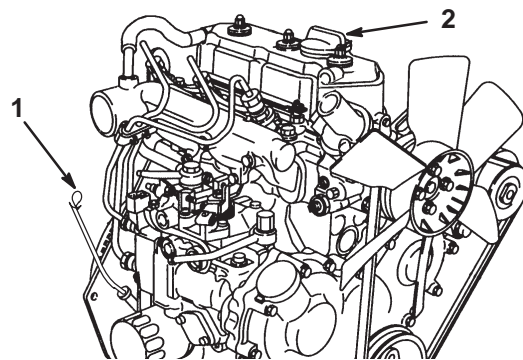

Figure 16
2. Remove the dipstick and wipe it with a clean rag (Fig. 16). Push the dipstick into the tube and make sure it is seated fully. Remove the dipstick from the tube and check the level of oil. If the oil level is low, remove the filler cap from the valve cover and **slowly** add enough oil to raise the level to the Full mark on the dipstick. Add the oil slowly and check the level often during this process. **Do not overfill.**